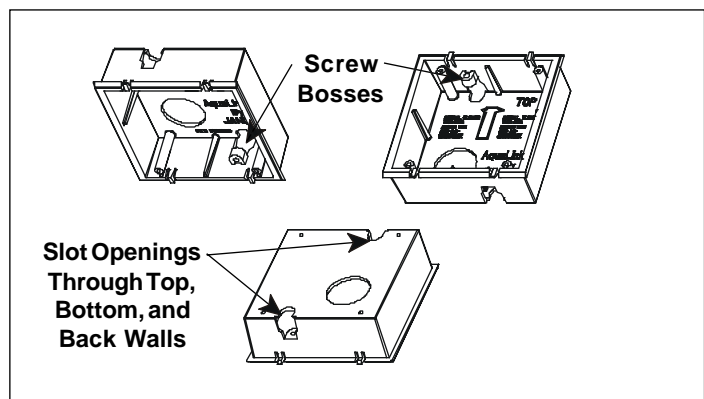

Figure 3. Cleat Location
7. Insert a screw through the screw boss. Put a cleat into the top "U" shaped hole (with the orientation determined in Step 4). Thread the screw into the cleat. Hand tighten with a Phillips screwdriver. Repeat with second screw and cleat using the bottom hole. (see Fig. 3 & 4).